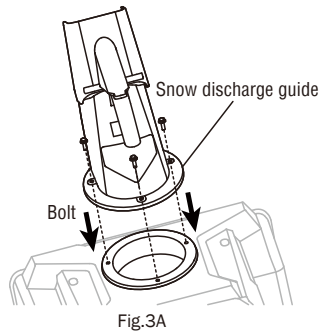

Fig.3A
1. Put the snow discharge guide on the base and make sure the assembly hole in the bottom of the snow discharge guide aligns with the holes in the base. (Fig.3A)
2. Fix the snow discharge guide onto the motor housing with the three M6 bolts provided. (Fig.3A)